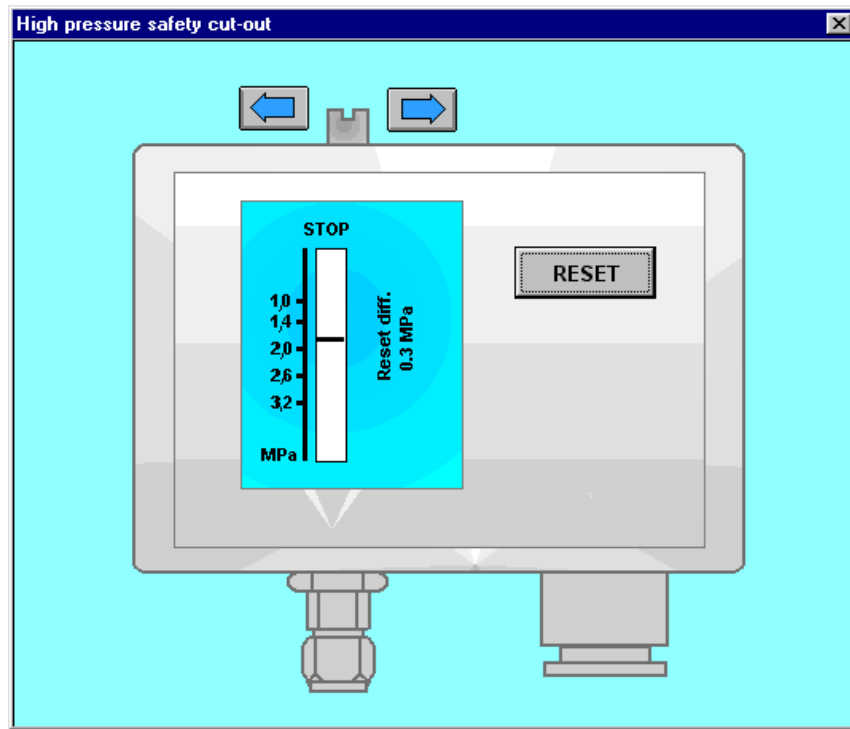

Fig. 5.5 High pressure safety cut-out diagram /HPC/
clicking the button **RESET** on HPC diagram Fig.5.5. When pressure set at the HPC exceeds 2,1 MPa (in case of excessive pressure), the safety valve **SV** acts (the valves field lights red), connecting the compressor suction and compression sides. If the compression pressure p_t decreases to the value about 1,4 MPa, then by mouse clicking press the button **RESET** placed over the safety valve in order to unlock it.
4. If condenser cooling water pump is off, the compressor starts and works until an increase of the condensing pressure p_k occurs and consequently the compression pressure p_t increases over the value set at the high pressure safety cut-out HPC. The high pressure alarm lamp **EMERG. STOP HIGH PRESS** turns on and the alarm sounds. It will be possible to repeat the compressor start only after the pressure decreases to the value of about 1,4 MPa, by pressing the button **RESET** on HPC diagram Fig.5.5.
3. If shut-off valve before shell and coil condenser is closed Fig. 4.45 after a few seconds the compressor stops due to the increasing compression pressure over the value set on the high pressure safety cut-out. The high pressure alarm lamp **EMERG. STOP HIGH PRESS** turns on and the alarm sounds. It will be possible to repeat the compressor start only after the pressure decreases to the value of about 1,4 MPa, by pressing the button **RESET** on HPC diagram Fig. 5.5.
The maximum admissible compression pressure is set on the high pressure safety cut-out HPC. The values of pressure are marked on the HPC scale Fig.5.5. The maximum compression pressure can be set by mouse clicking in the arrow field (close to adjustment screw).
3. High pressure safety cut-out HPC diagram is opened by mouse clicking at HPC symbol field placed on the installation diagram. After adjustment, close HPC zoom Fig. 5.5.